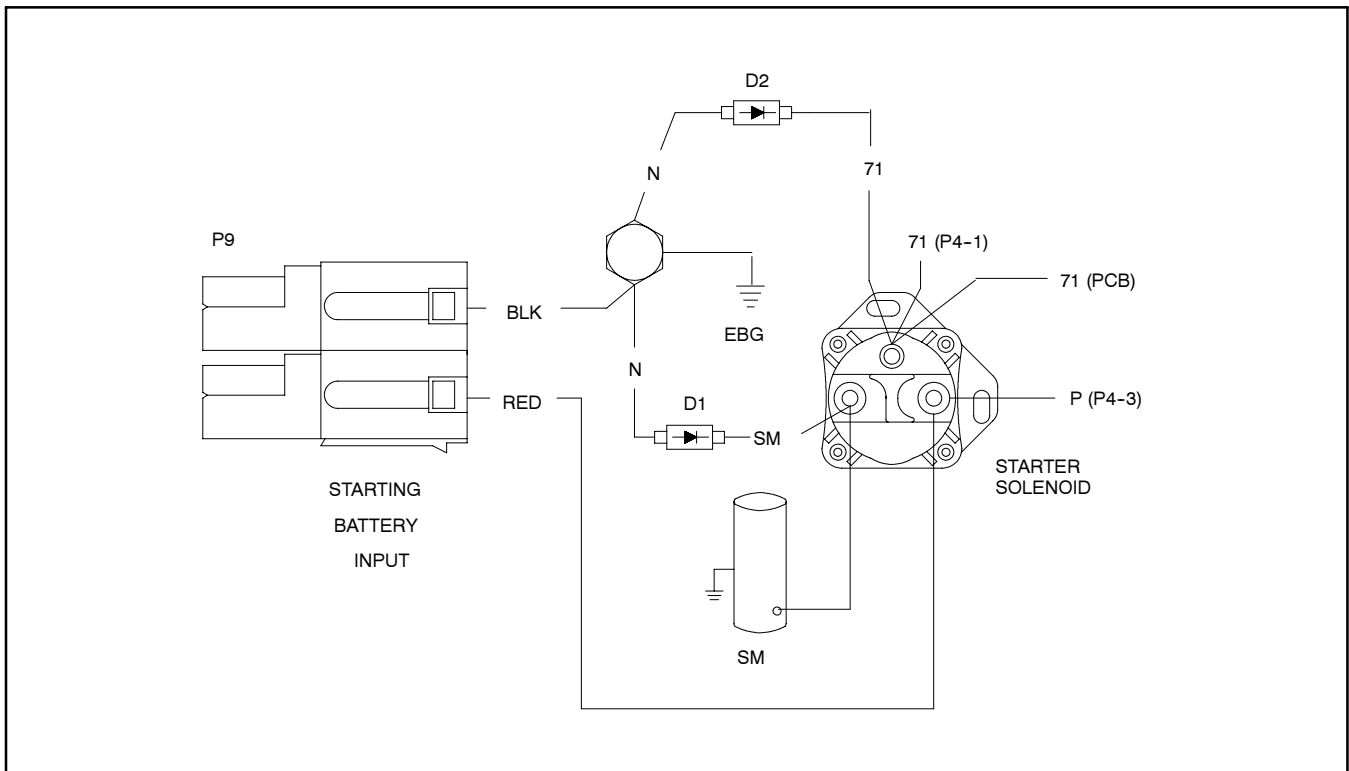

Figure 4 Solenoid Connections
13. See Figure 4 for solenoid connections.
- b. Use one of the 5/16-18 hex nuts X-6210-7 to fasten both starter motor (SM) leads to the copper post near the starter motor.